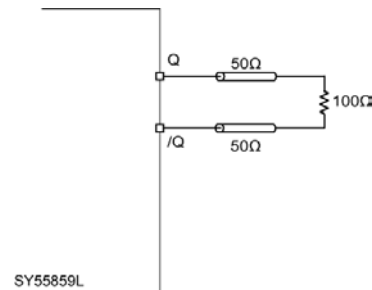

Figure 6. Output Interface
1. AC characteristics are guaranteed by design and characterization. Tested using environment of Figure 6, 50Ω equivalent load.